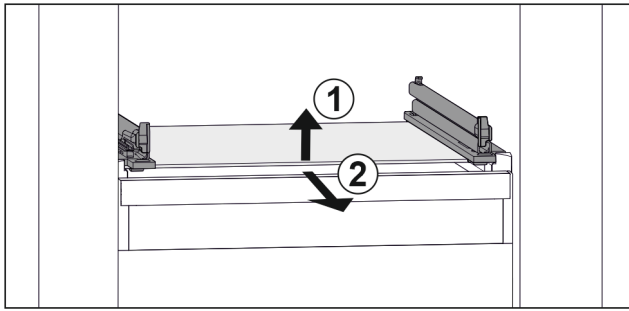

Fig. 78 Example illustration of glass shelf
- ▶ Lift glass shelf at the front. Fig. 78 (1)
- ▶ Remove glass shelf to the front. Fig. 78 (2)